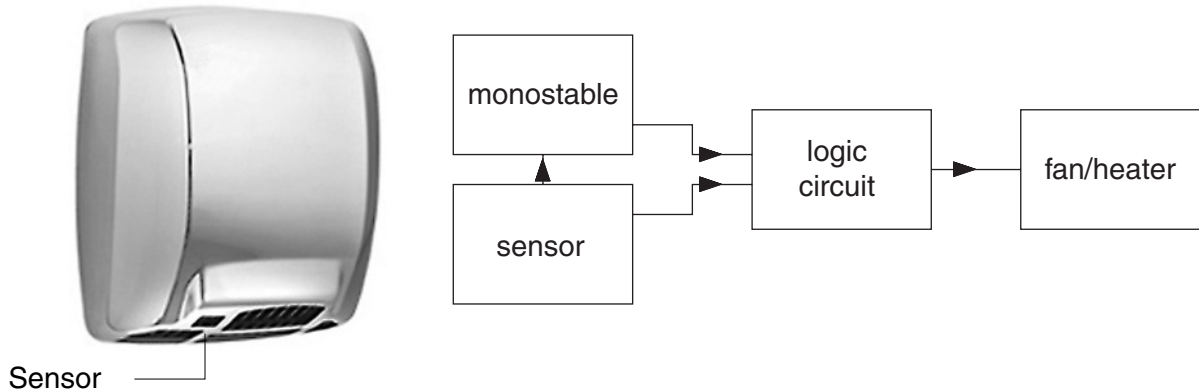

Fig. 9
- 3 (a) A manufacturer of hot air hand driers is developing a new model. Fig. 9 shows a hot air hand drier and a block diagram of the new circuit.